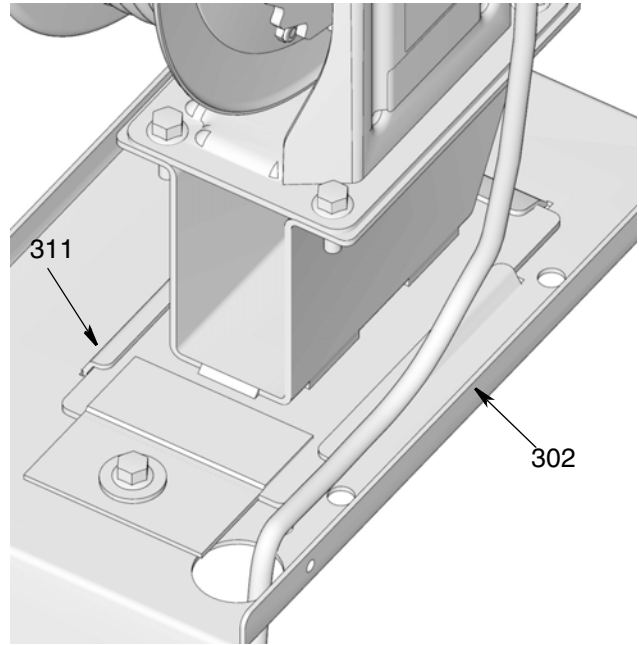

FIG. 12
5. Install mounting bracket (311) into slot of mounting base (302). (FIG. 12)